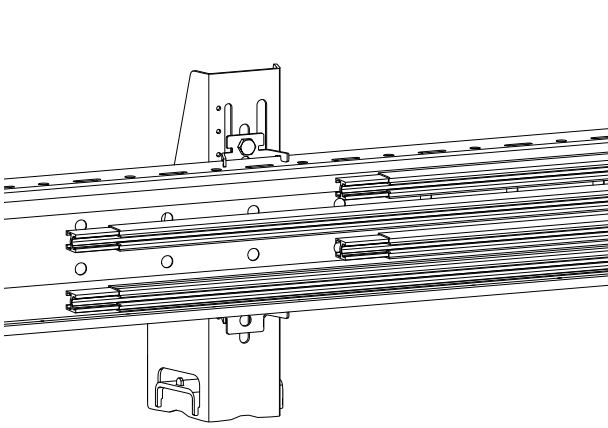
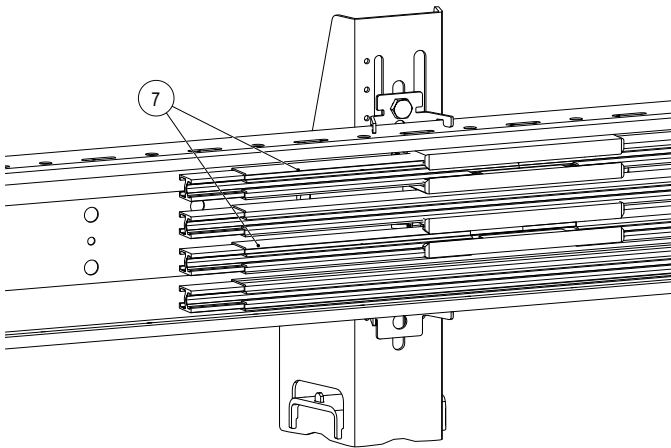

Fig. 41: Conductor rails are not at same height
Fig. 43: Conductor rails are at same height
6. Due to the offset arrangement of the line feeds in the terminal box or the connectors, the additional conductor rails on the track are not at the same level. In order to bring the conductor rails back to the same height, a short piece (250 mm) (7) with a connector is installed on each of the short ends of the conductor rails before the conductor rails can continue to be installed on the track (see Fig. 41 to Fig. 43).
7. Due to the offset arrangement of the line feeds in the and the connectors, the additional conductor rails on the track are not at the same level. In order to bring the conductor rails back to the same height, a short piece (250 mm) (7) with a connector is installed on each of the short ends of the conductor rails before the conductor rails can continue to be installed on the track (see Fig. 41 to Fig. 43).